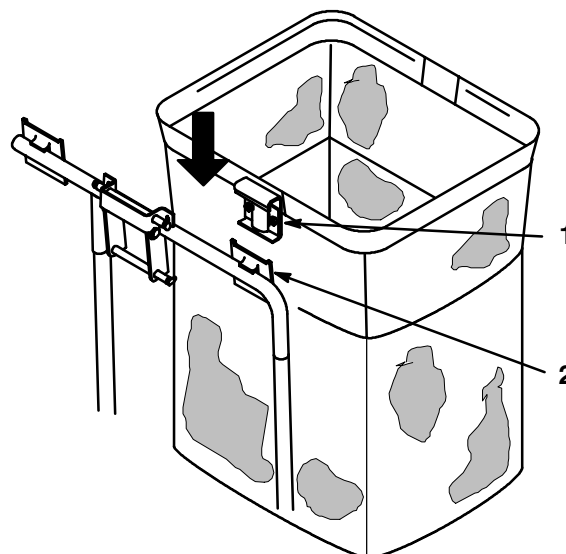

Figure 19
5. Install the bags by sliding the bag frame hooks onto the retaining brackets (Fig. 19).